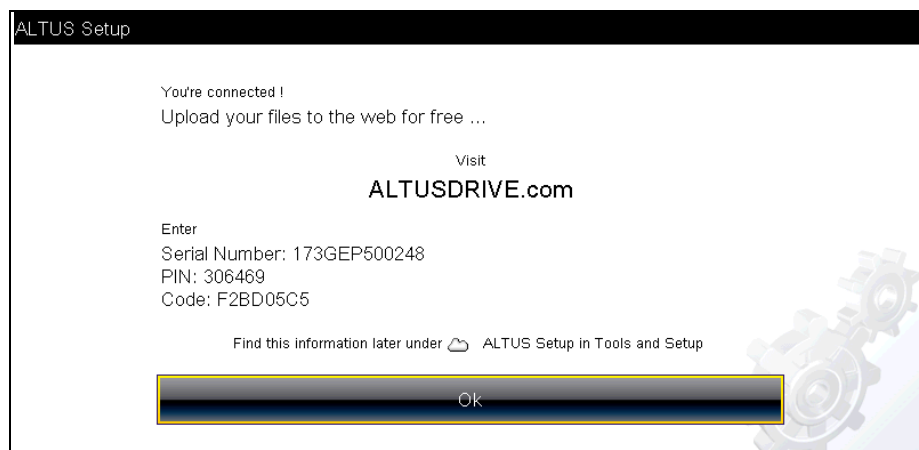
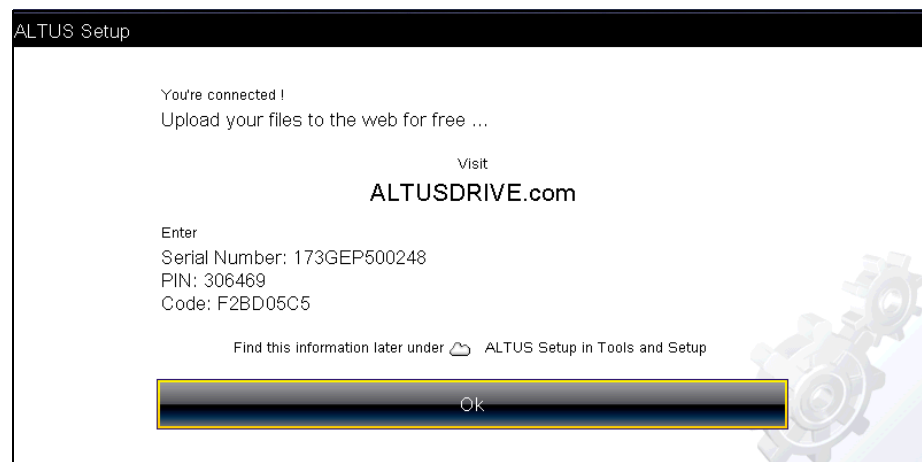
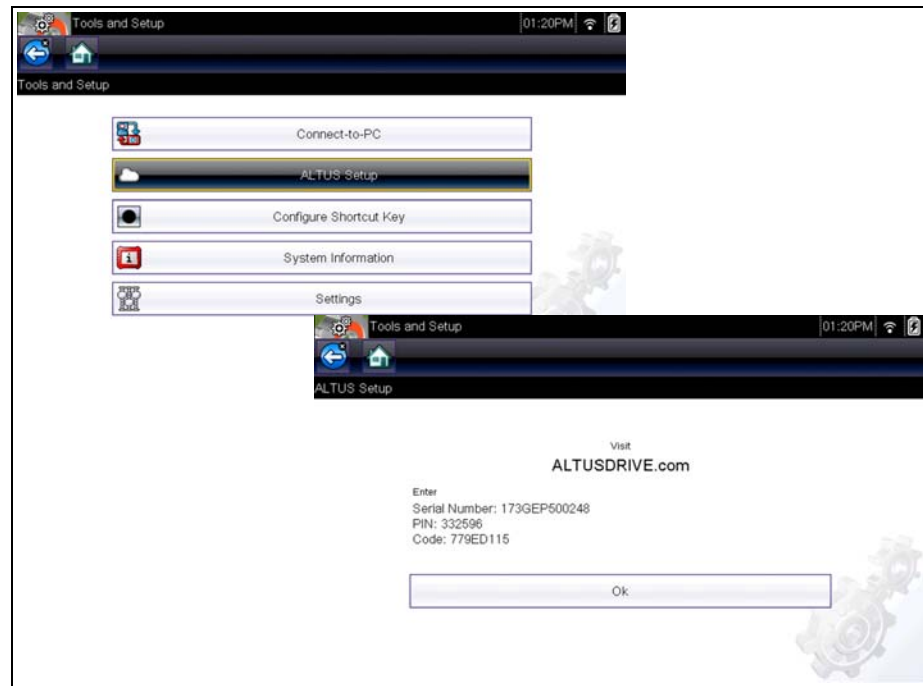

Figure 12-1
Figure 12-2
Figure 12-3
2. Write down the Serial Number, PIN and Code that are displayed when the device connects to the Wi-Fi network (Figure 12-1), or leave the screen displayed. Registration information can also be found in the Tools menu, see ALTUS Setup Information Screen, on page 115,.
The PIN and Code numbers will change each time you view the ALTUS Setup screens (Figure 12-1 and Figure 12-3). This is normal, any displayed set of PIN and Code numbers may be used to register on ALTUSDRIVE.com.
2. Write down the Serial Number, PIN and Code that are displayed when the device connects to the Wi-Fi network (Figure 12-2), or leave the screen displayed. Registration information can also be found in the Tools menu, see ALTUS Setup Information Screen, on page 115,.
The PIN and Code numbers will change each time you view the ALTUS Setup screens (Figure 12-2 and Figure 12-3). This is normal, any displayed set of PIN and Code numbers may be used to register on ALTUSDRIVE.com.
From the Home screen, selecting **Tools > ALTUS Setup** (Figure 12-3) allows you view the diagnostic tool serial number, PIN and Code needed to register on ALTUSDRIVE.com.
The PIN and Code numbers will change each time you view the ALTUS Setup screens (Figure 12-3 and Figure 12-1). This is normal, any displayed set of PIN and Code numbers may be used to register on ALTUSDRIVE.com.